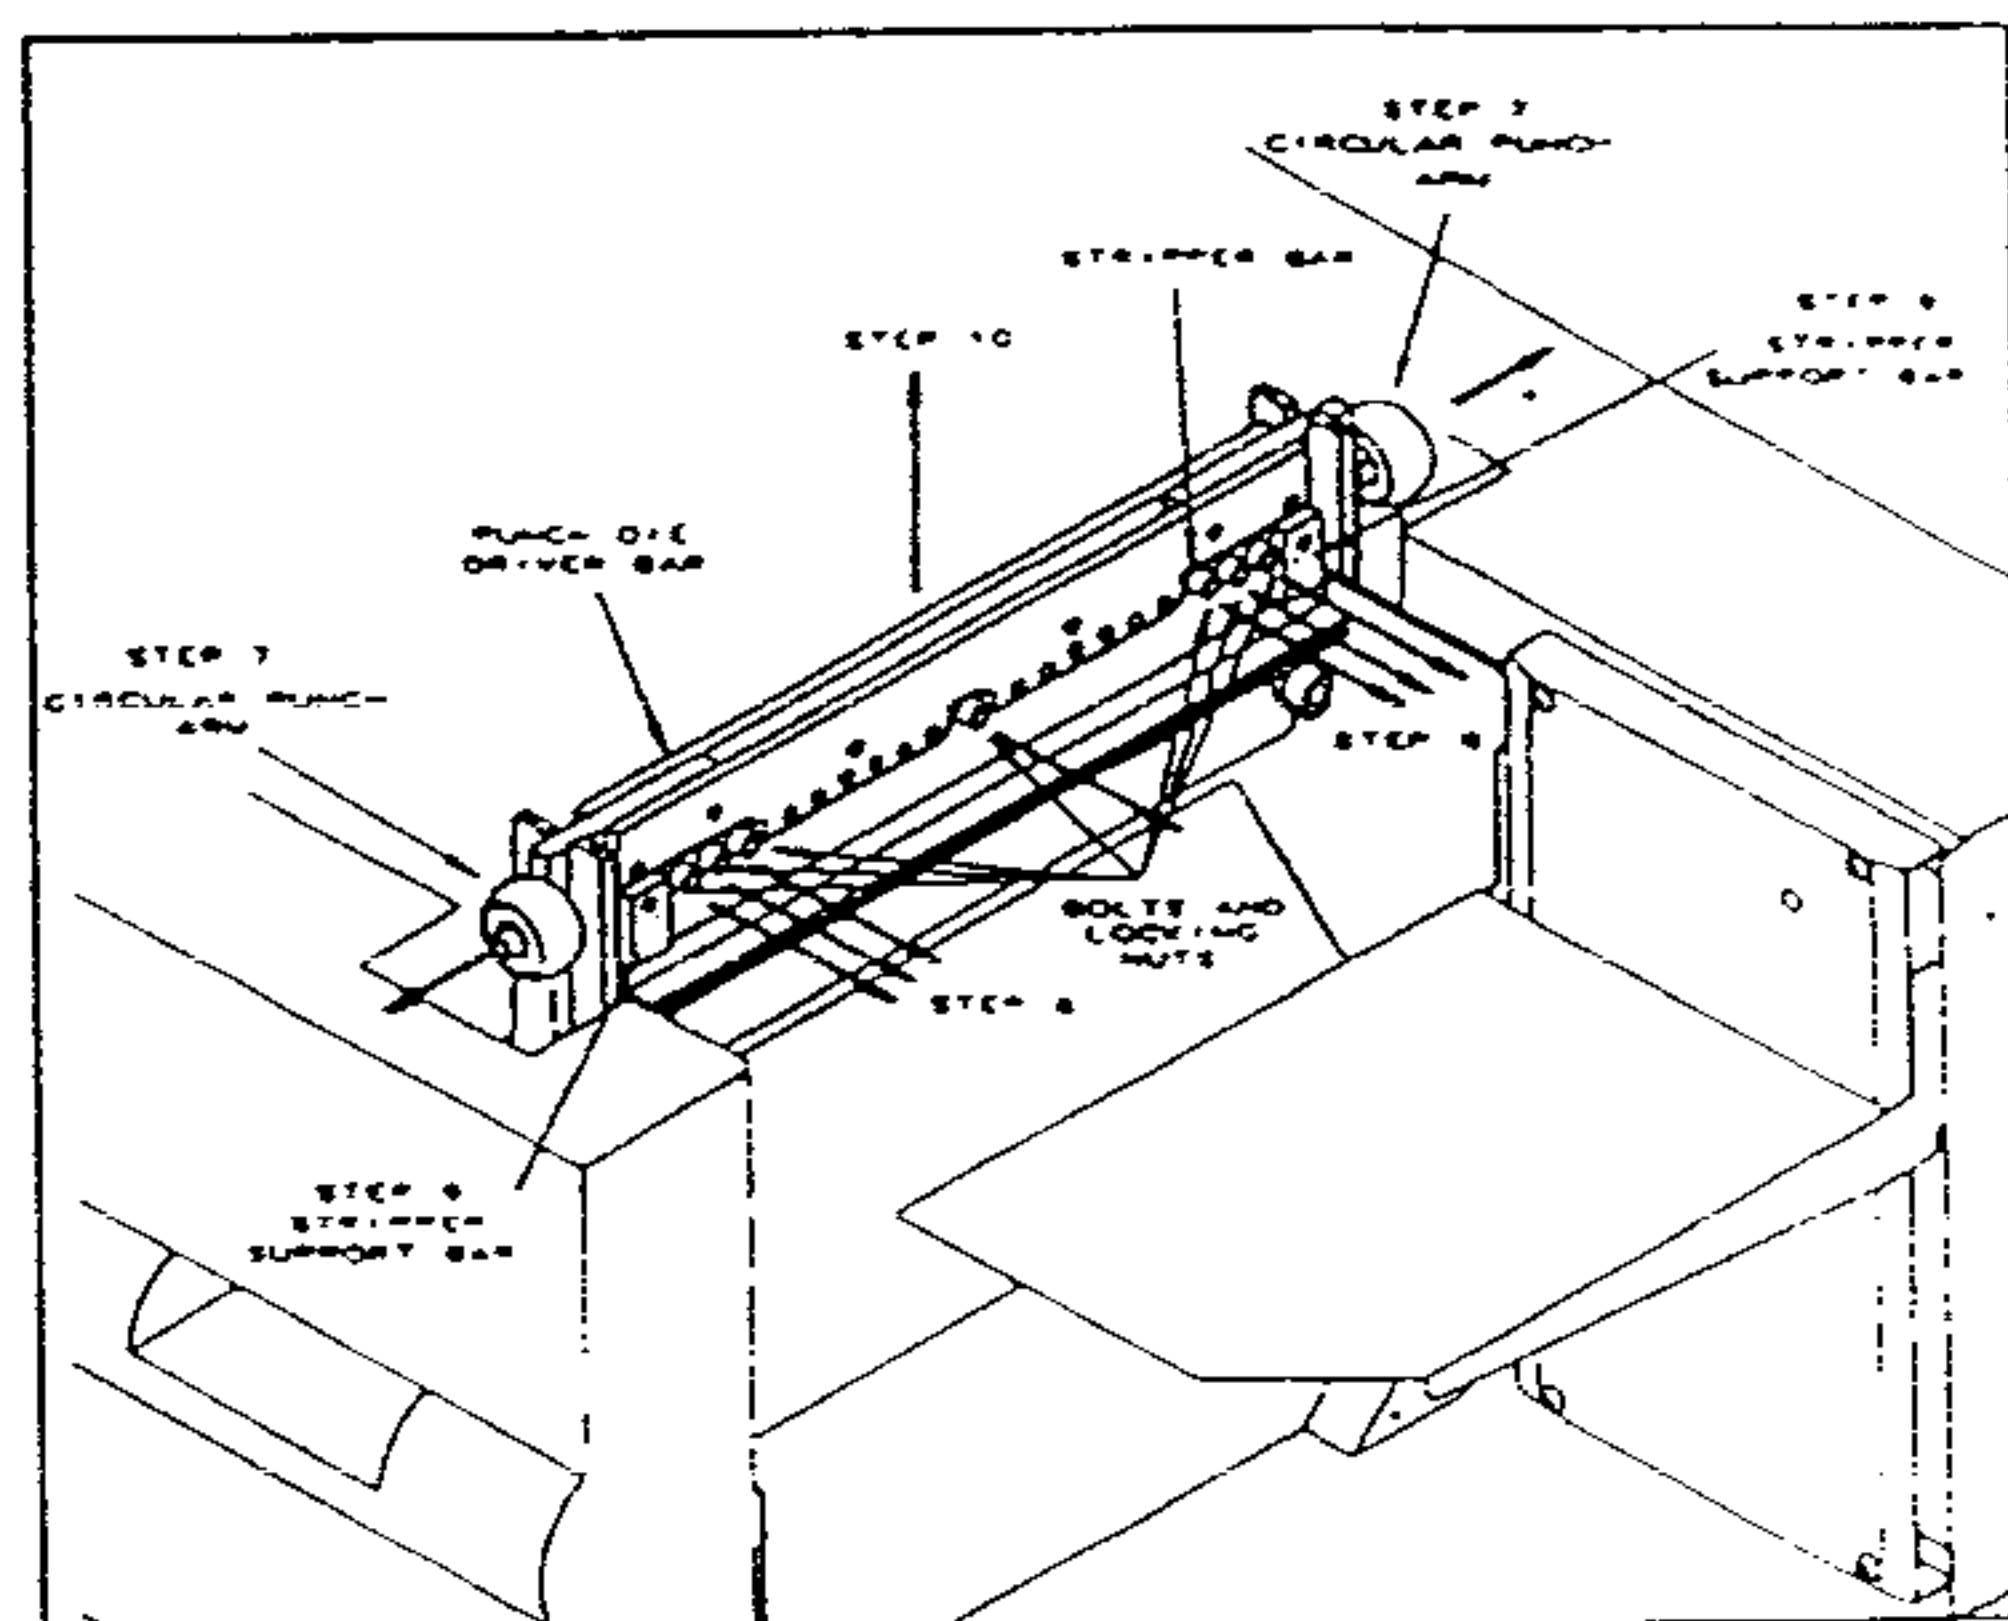

Figure 16
- Approximately once a year lubricate the punch die driver bar guide slots that the die cycles up and down within (see Figure 16). Use Lubriplate MO-Lth #2 (GBC item #1961505), and follow the steps listed below:
7. Using an Allen wrench, remove the two (2)  $\frac{1}{2}$ " Allen head screws (socket head cap screws) and washers that retain the circular punch arms to the ends of the punch die driver bar. Then slide the circular punch arms off each end of the punch die driver bar. (See Figure 16)
8. Remove the seven (7) bolts and locking nuts that attach the punch die driver bar to the stripper bar. (See Figure 16)
9. Remove the two (2)  $1\frac{1}{4}$ " Allen head screws that attach the stripper support bars to the assembly (one on each side). On the side with the photo sensor, you may have to lift up the punch die driver bar to gain access to the screw with an Allen wrench. (See Figure 16)
10. Lift the punch die driver bar vertically from the AP-1. (See Figure 16)